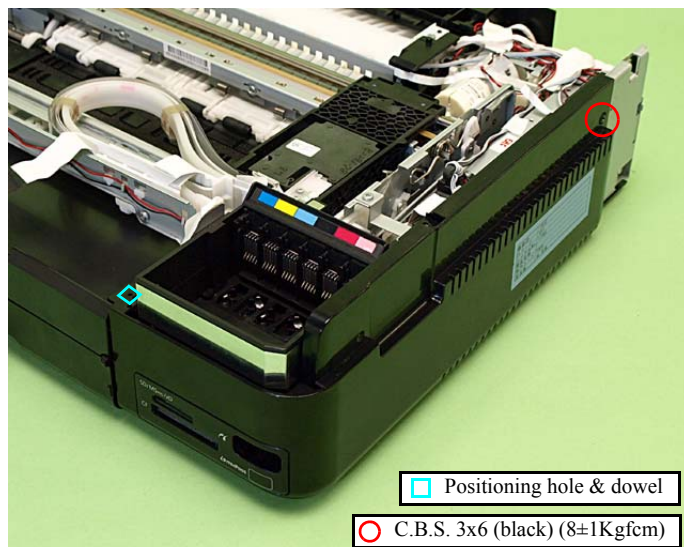

Figure 4-222. Removing the Right Housing/Card Cover (1)
2. Release the dowel (x1) on the front side (See Fig. 4-222) and hooks (x3) on the bottom of the Right Housing, and remove the Right Housing.
- Align and insert the positioning hole of the Right Housing to the dowel of the Base Frame. (See Fig. 4-222)